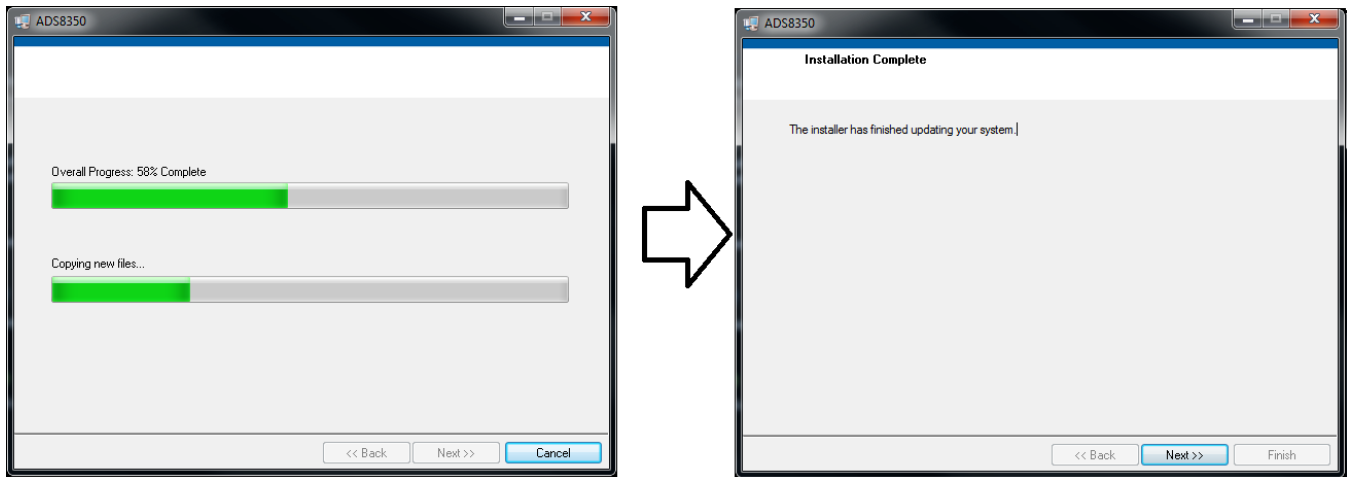

Figure 12. Progress Bar and Installation Complete Screens
9. The progress bar is followed by an installation complete notice, as shown in Figure 12.